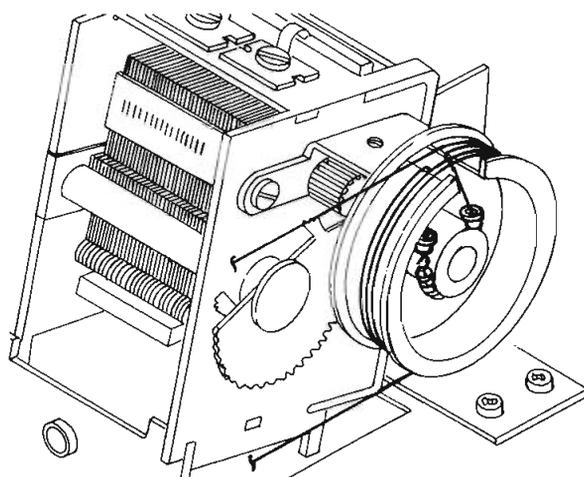

Fig. 2-10 Wrapping dial cord around tuning drum
7. Run the cord out through the slot and wrap the cord two and one-half clockwise turns around the drum as shown in Fig. 2-10.